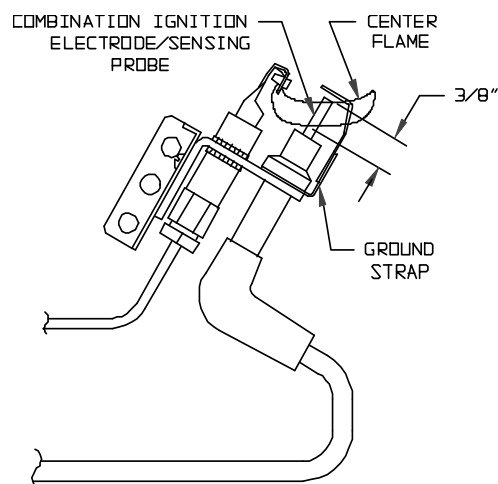

FIGURE 21: INTERMITTENT IGNITION PILOT BURNER FLAME
- See Figure 21 for intermittent ignition. Pilot burner produces three flames. The center one should be a steady medium blue flame covering around 3/8" to 1/2" of spark electrode/flame rod.